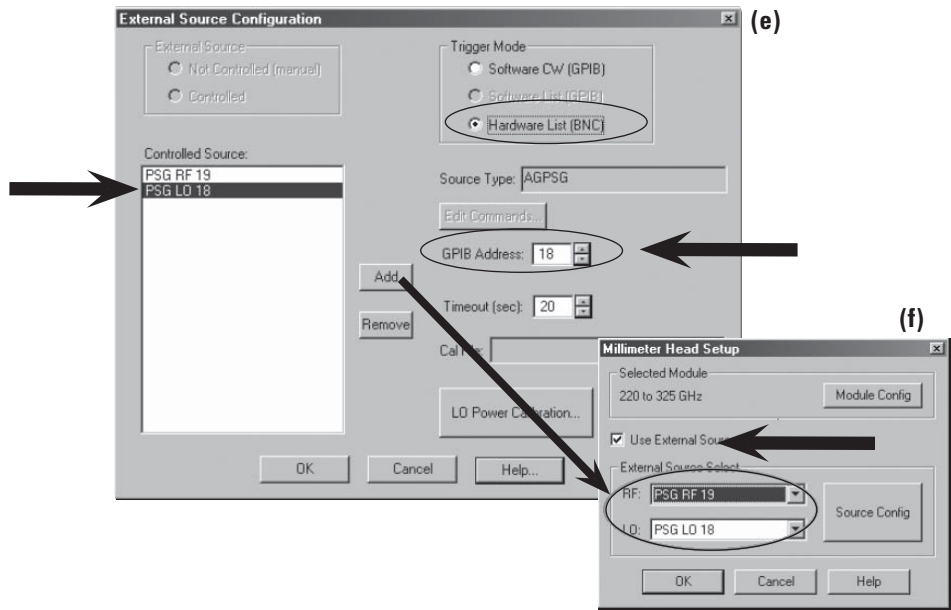

Figure 9. Steps necessary to configure and apply external synthesizers.
1. **System > Configure > External Source Config...**, this brings up display (a) as shown in Figure 9.
6. **System > Configure > Millimeter Module Config...**, this brings up display (f) of Figure 9. (This example shows the "Selected Module" as "220 to 325 GHz".)